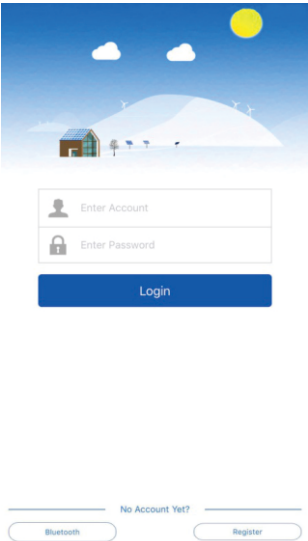

Fig.1
- ①.After scanning the code to download the photovoltaic APP, the user opens the APP and enters the login interface in Figure 1;